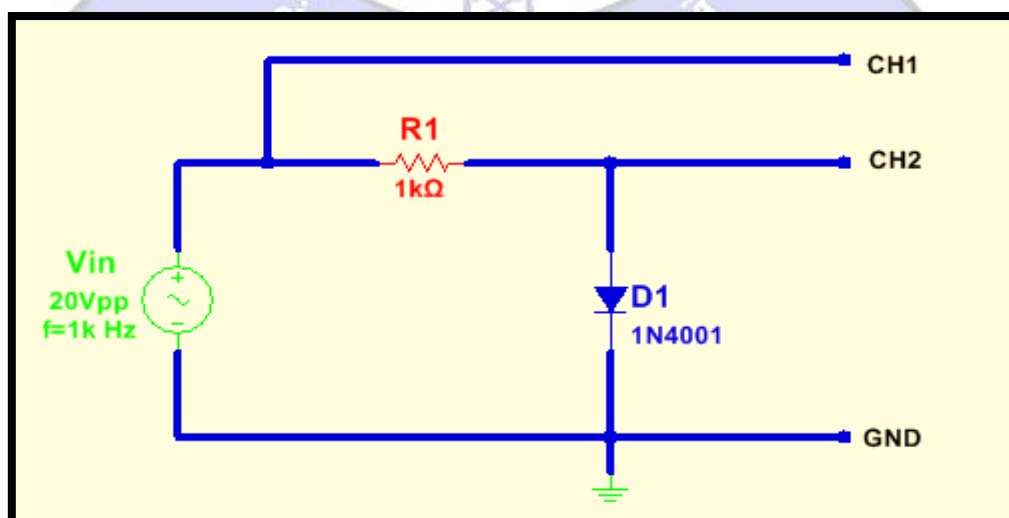

Figure 7: Practical Unbiased Parallel Clipping Circuit
1. Connect the clipping circuit shown in Fig.7, and apply a 20Vpp sinusoidal input waveform with frequency of 1 kHz at the input. Display and sketch both input and output signals.